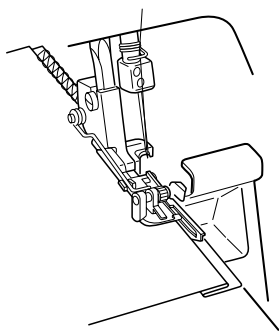

Fig.3
- 4) Sew, guiding the two pieces of fabric with your hands (Fig. 3).
5. Make the fold go along the cloth guide without letting the needle miss it (Fig. 3).